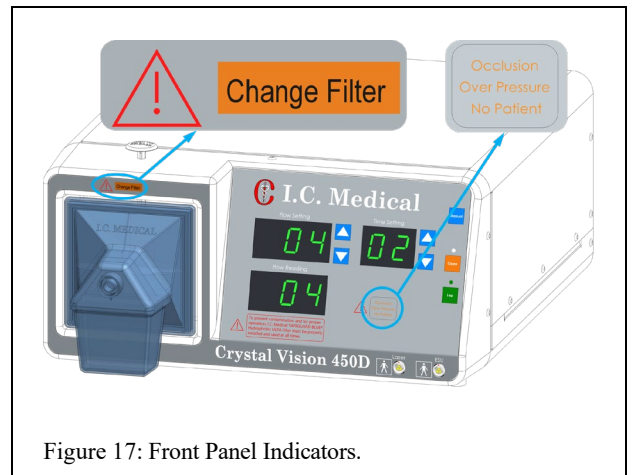

Figure 17: Front Panel Indicators.
10. CHANGE FILTER indicator is located above filter (Fig. 17). It illuminates when there is a reduced flow into the CRYSTAL VISION®. The **SAFEGUARD BLUE®** Hydrophobic ULPA Filter with Built-in Fluid Trap should be changed when this light first illuminates. Do not attempt to clean, or re-use the **SAFEGUARD BLUE®** Hydrophobic ULPA Filter with Built-in Fluid Trap according to your institution's biological waste protocol. This indicator will also come ON when there is a total occlusion. If the OCCLUSION indicator is also lit, be sure to clear the obstruction that caused it first and then check the CHANGE FILTER indicator. If it is still illuminated and the OCCLUSION indicator is not, then the **SAFEGUARD BLUE®** Hydrophobic ULPA Filter with Built-in Fluid Trap needs to be changed.
11. OCCLUSION indicates that flow into the CRYSTAL VISION® has stopped (Figure 17). The CHANGE FILTER light will also come ON at this time. The operator should check for kinked tubing, stopcocks that are turned OFF, clogged insufflator, use by date of Large Coconut Charcoal Output Filter, or a completely clogged **SAFEGUARD BLUE®** Hydrophobic ULPA Filter with Built-in Fluid Trap. In order to prevent pump failure, the CRYSTAL VISION® pump will not activate when this lamp is illuminated.
12. OVER PRESSURE indicates pressure exceeding 27 mmHg in the pneumoperitoneum (Figure 17). At pressures over 30 mmHg, the vacuum pump starts in order to reduce the pressure in the pneumoperitoneum. This situation can be caused by many factors. Frequently, the surgeon presses on the abdomen and this causes intra-abdominal pressure to rise. Correct the cause before continuing.
13. The "NO PATIENT" indicator (Figure 17) turns on when the CRYSTAL VISION® is in the LAPMODE, when zero pressure, or atmospheric pressure, is present at the **SAFEGUARD BLUE®** Hydrophobic ULPA Filter with Built-in Fluid Trap. The tubing set may not be connected to the Trocar sheath or to the **SAFEGUARD BLUE®** Hydrophobic ULPA Filter with Built-in Fluid Trap; the valve on the Trocar sheath may be turned off; or the **SAFEGUARD BLUE®** Hydrophobic ULPA Filter with Built-in Fluid Trap may not be attached to the **SAFEGUARD BLUE®** Hydrophobic ULPA Filter with Built-in Fluid Trap connector.